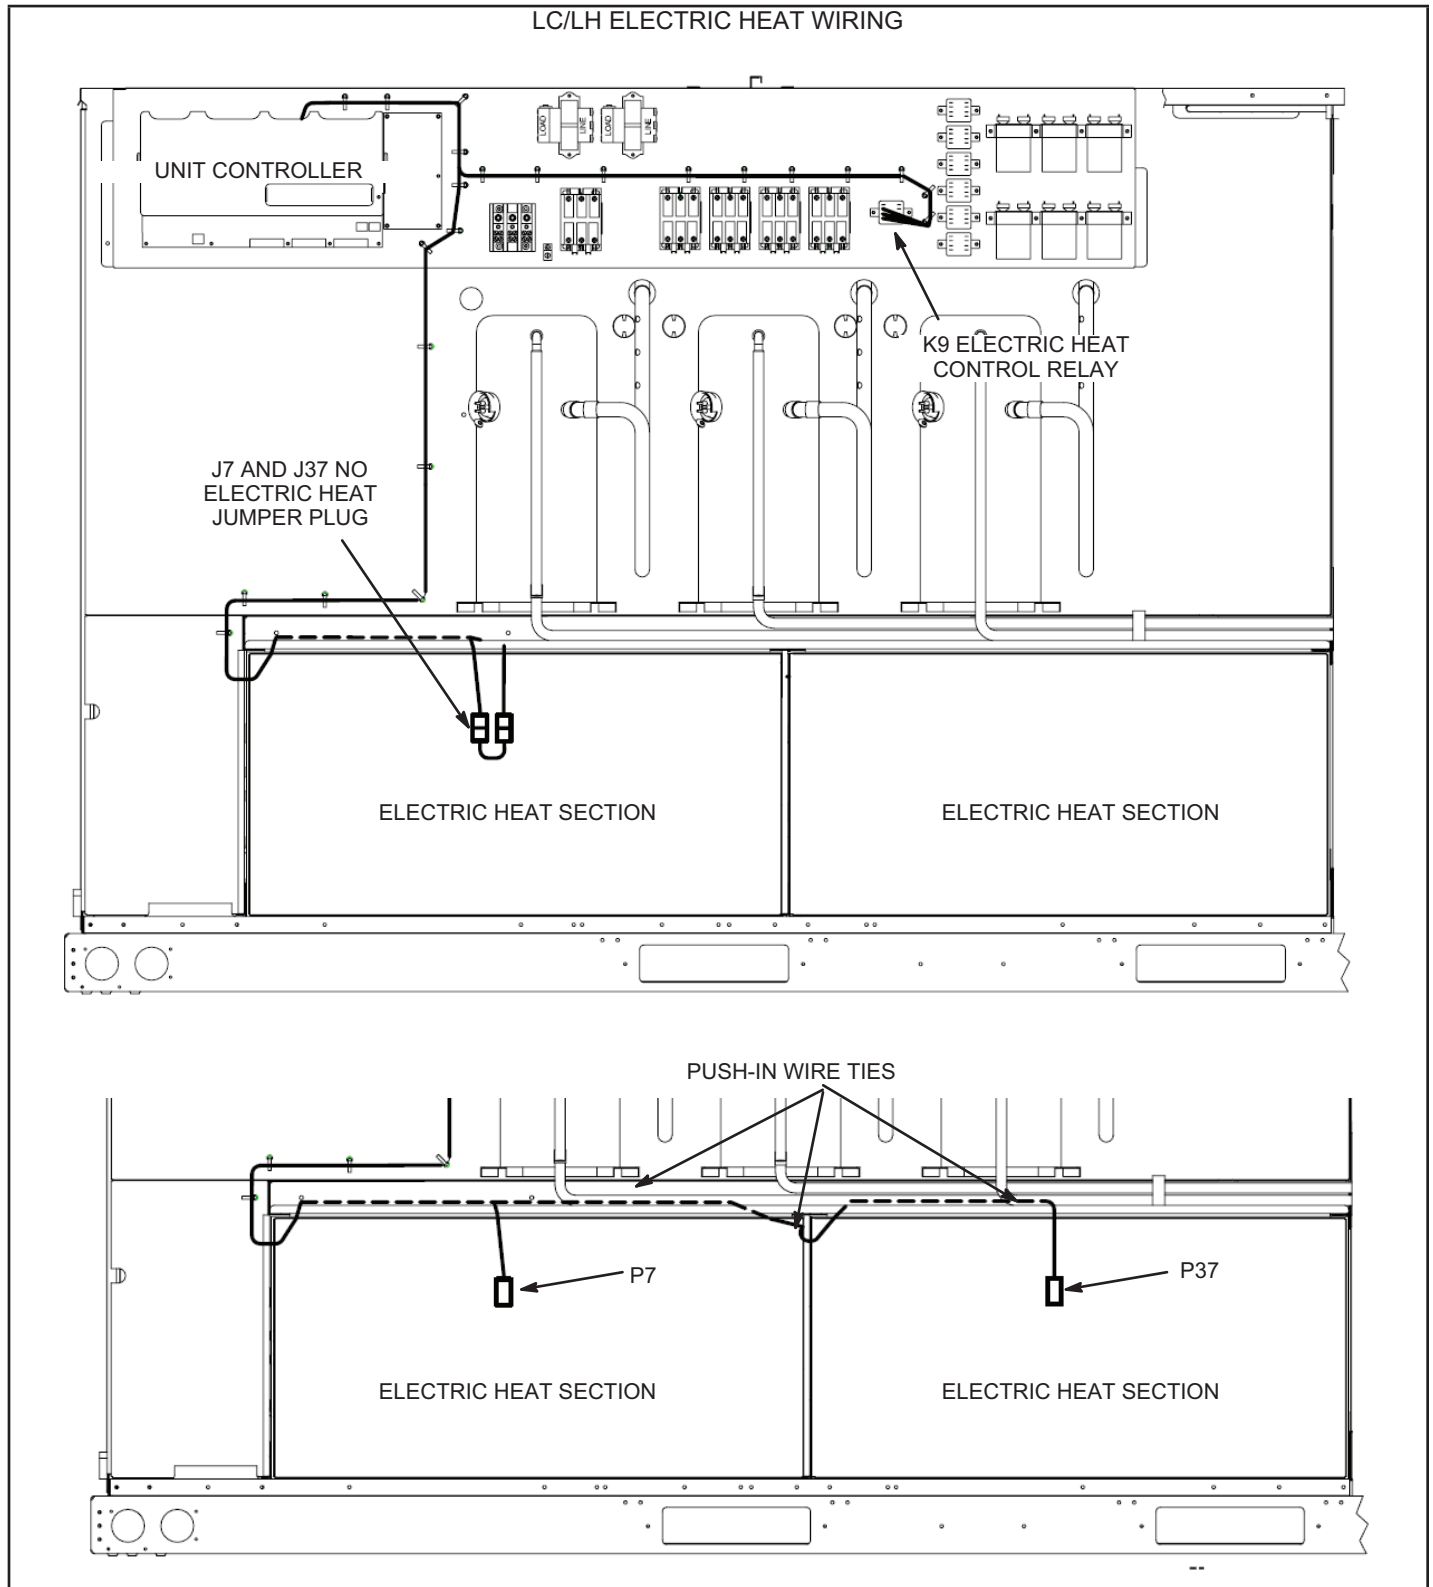

FIGURE 3
Refer to FIGURE 3 or FIGURE 4.
- 1 - Locate and disconnect J7 and J37 jumper plug from harness. See FIGURE 3.
- 3 - Route P37 to the right heat section as shown in FIGURE 3 or FIGURE 4.